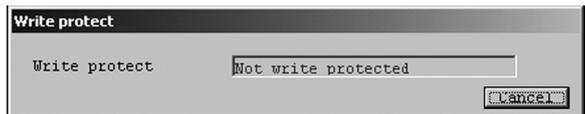

Fig.18
① Click "Process Variables (V)" in the menu at the top of the screen, and then select and click "Write protect" to display the following window (Fig. 18).